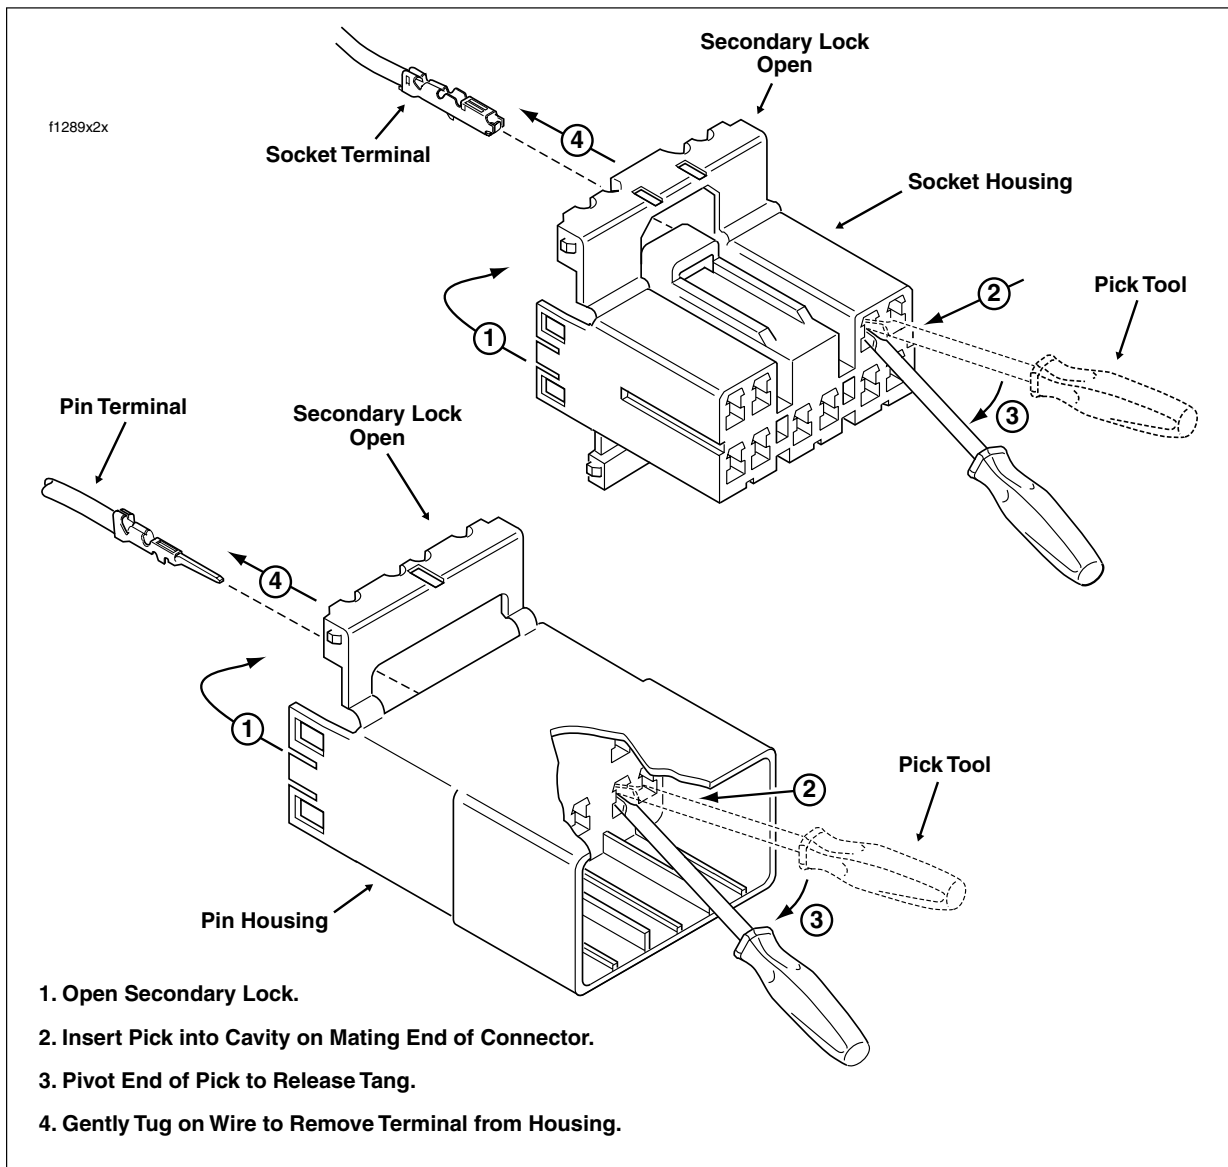

Figure B-11. Release Tang and Back Out Terminals
5. See Figure B-11. With the flat edge against the terminal, insert the pick (Snap-On TT600-3) into the cavity until it stops. Pivot the end of the pick away from the terminal and gently tug on wire to pull terminal from chamber. Do not tug on the wire until the tang is released or the terminal will be difficult to remove. A "click" is heard if the tang